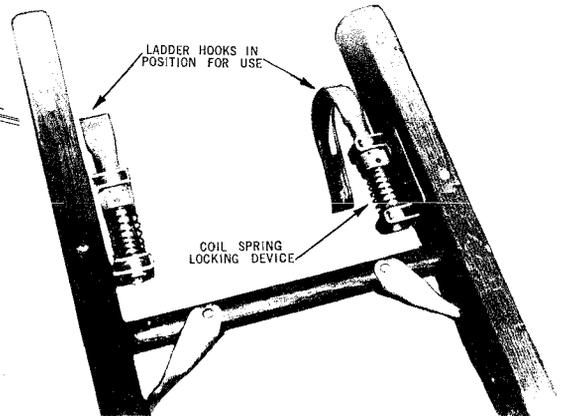

Fig. 14 — Ladder Hooks
- 6.11 The *ladder hooks* provided on Extension Ladders are shown in Fig. 14.